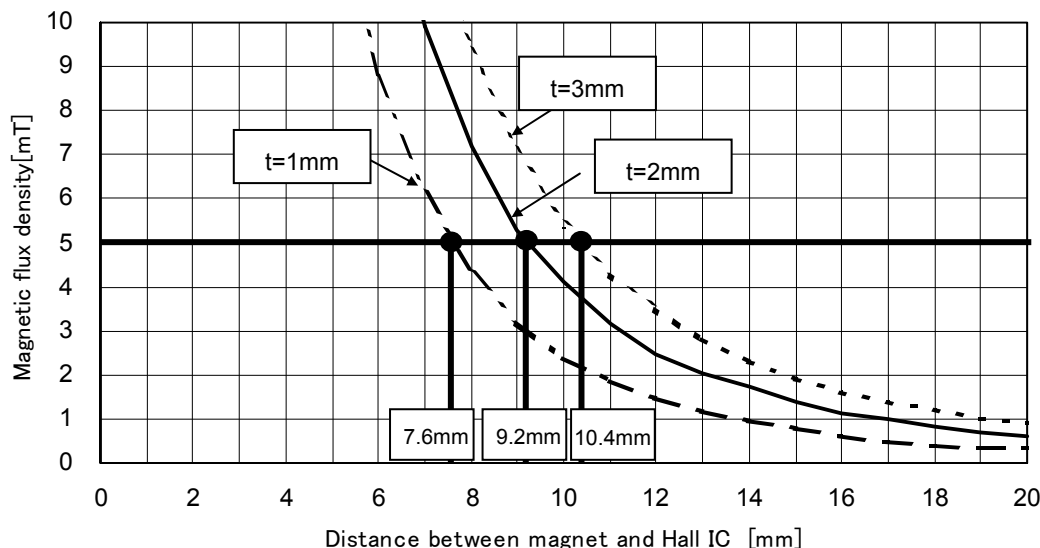

Fig.39
Of the two representative varieties of permanent magnet, neodymium generally offers greater magnetic power per volume than ferrite, thereby enabling the highest degree of miniaturization. Thus, neodymium is best suited for small equipment applications. Fig. 39 shows the relation between the size (volume) of a neodymium magnet and magnetic flux density. The graph plots the correlation between the distance (L) from three versions of a 4mm X 4mm cross-section neodymium magnet (1mm, 2mm, and 3mm thick) and magnetic flux density. Fig. 40 shows Hall IC detection distance – a good guide for determining the proper size and detection distance of the magnet. Based on the BU52011HFV, BU52015GUL operating point max 5.0 mT, the minimum detection distance for the 1mm, 2mm and 3mm magnets would be 7.6mm, 9.22mm, and 10.4mm, respectively. To increase the magnet's detection distance, either increase its thickness or sectional area.